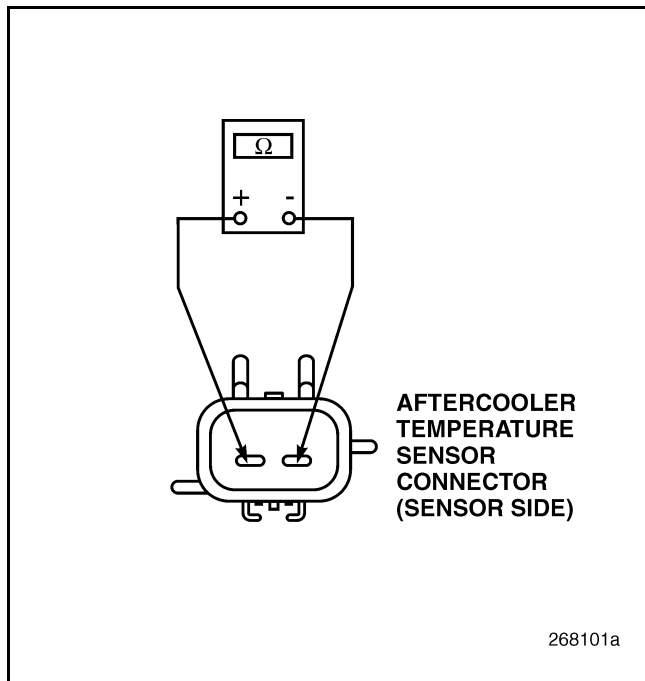

Figure 799
3. Measure the resistance across the pins of the AOT Sensor with the air temperature between 50° and 180°F (10° and 82°C) (see Figure 799).